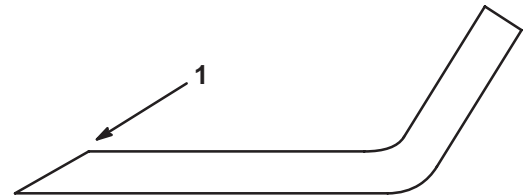

Figure 30
1. Use a file to sharpen the cutting edge at both ends of the blade (Fig. 30). Maintain the original angle. The blade retains its balance if you remove the same amount of material from both cutting edges.